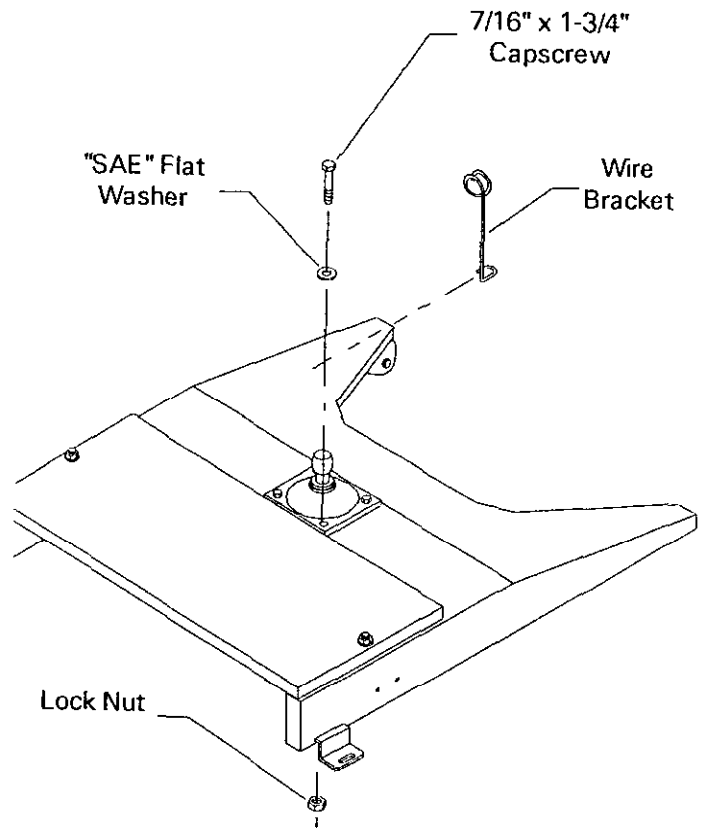

Figure 7
8. Attach the Bracket-Wire (92-4544) with 7/16" x 1-3/4" capscrew, "SAE" flat washer and lock nut from loose parts bag. (See Fig. 7)